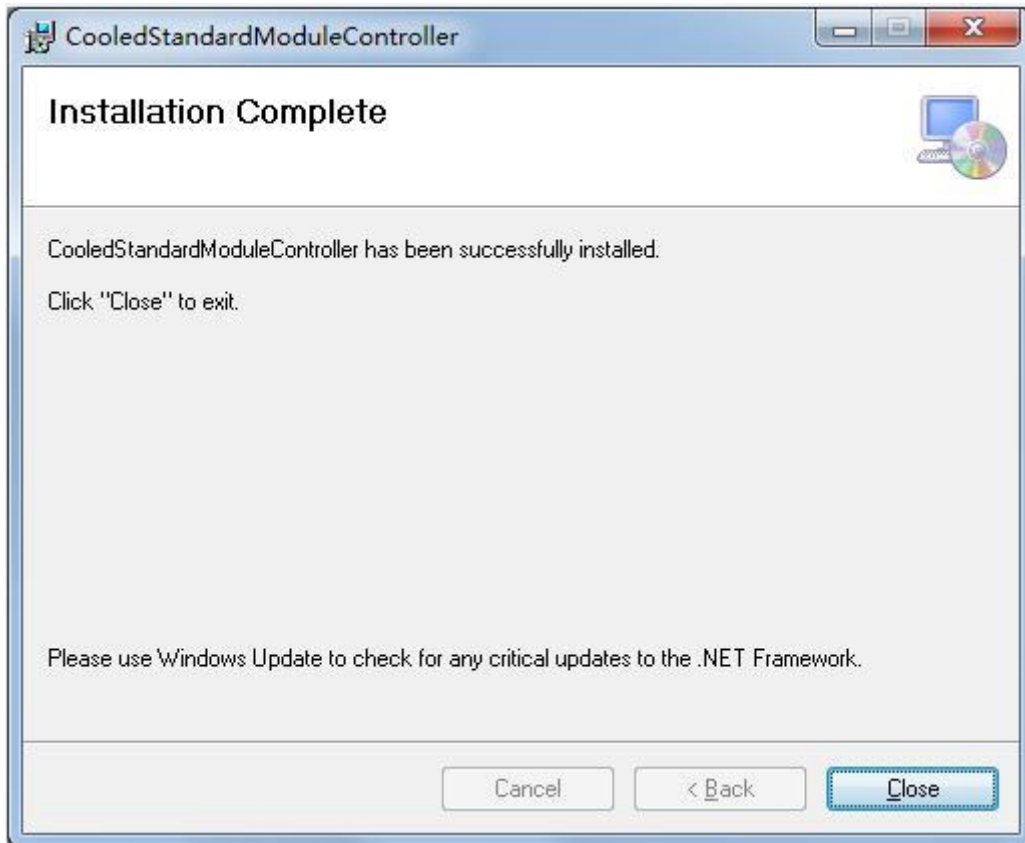

Figure 3-5 Pop-up window for software installation complete
- 5) After the installation, the installation completion window will pop up, as shown in Figure 3-5.